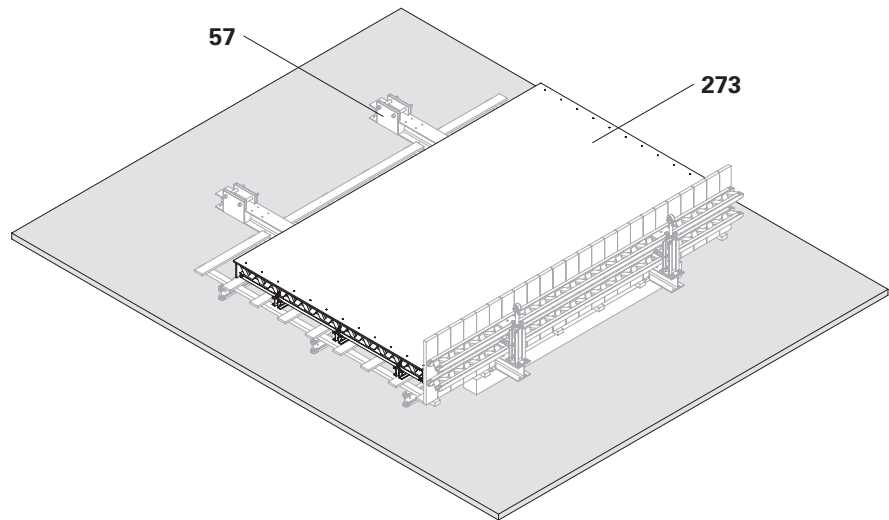

Fig. C4.01
2. Temporarily fix the Steel Waler SRU of the opposite side of the formwork unit (**273**) to the Platform Post 5900 IPBL 240 ACS (**57**). (Fig. C4.01)